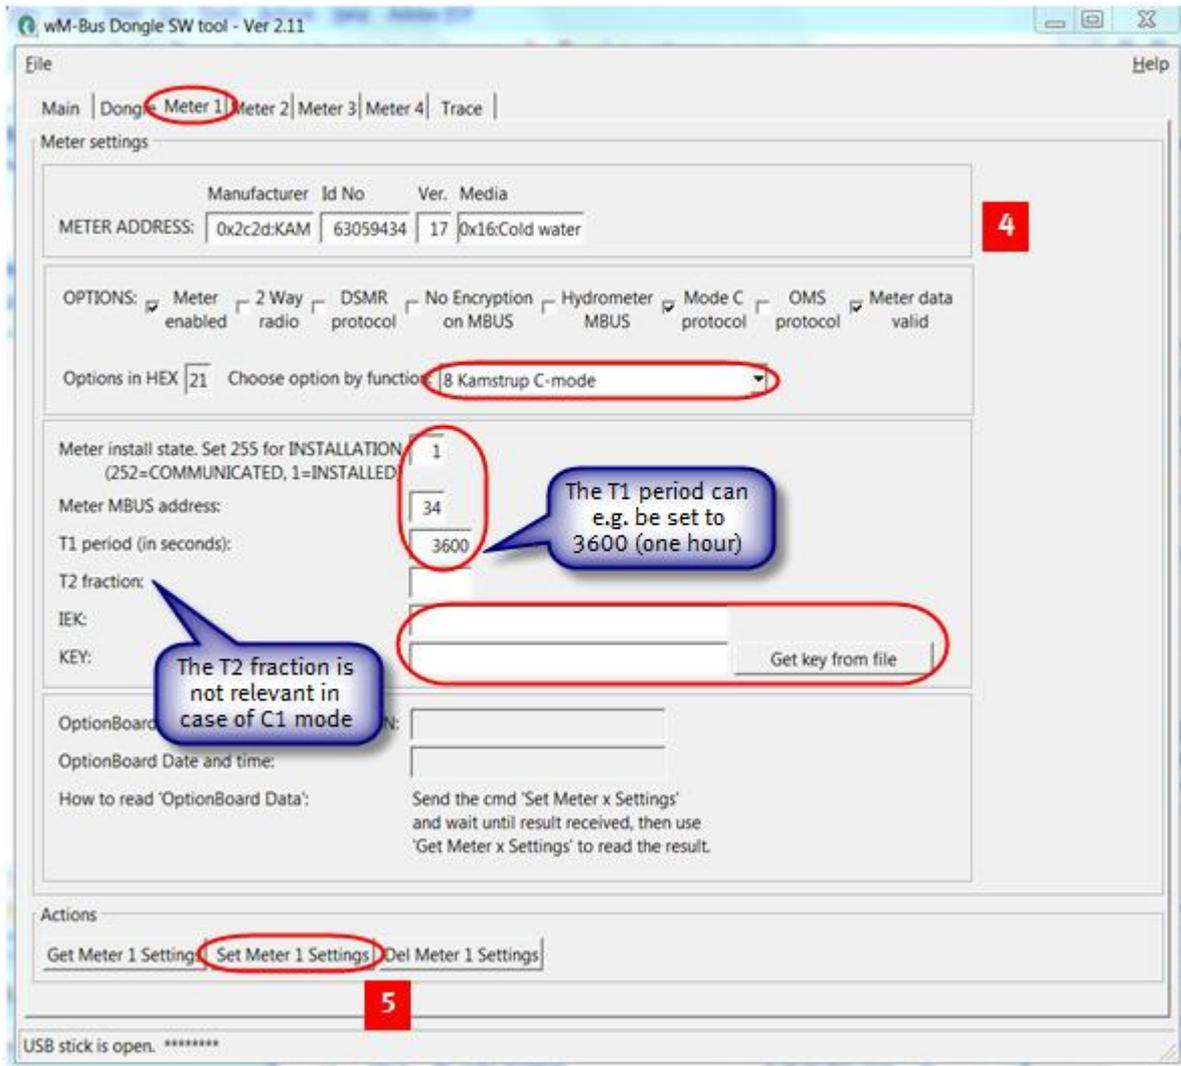

Figure 3
- 4** Configure the wired M-Bus address etc. (see Figure 3)
- 5** Store the configuration (see Figure 3).